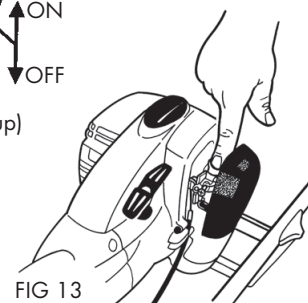

FIG 13
3. Press and release the primer bulb 10 times (Fig. 13). For first time starting of new unit, press primer bulb 20 times to remove any air from carburettor.